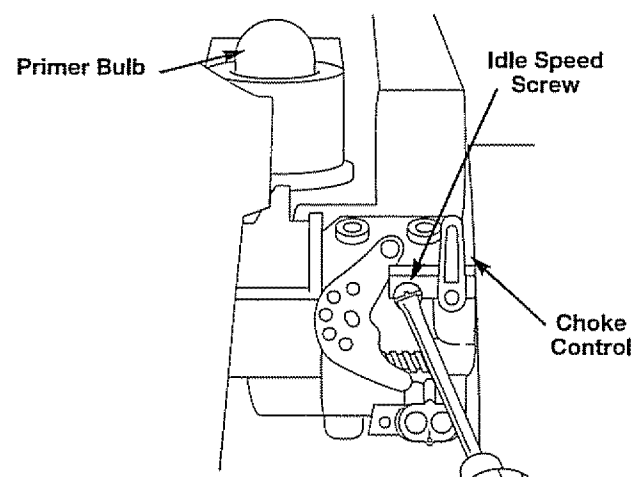

Fig. 21
3. Restart the unit, move the throttle control to the idle position. If the engine stops, insert a small phillips or flat blade screwdriver into the idle speed screw (Fig. 21). Turn the idle speed screw in, clockwise, 1/8 of a turn at a time (as needed) until the engine idles smoothly.